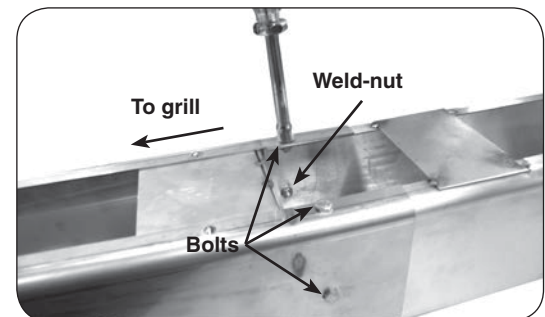

Fig. 19-2 Fasten extension to post
2. From outside the joined post and extension, insert one of the 1/4 X 20"-5/8 bolts (supplied) into each of the five (5) bolt holes and tighten each using a 7/16" socket driver or wrench (see Fig. 19-2).